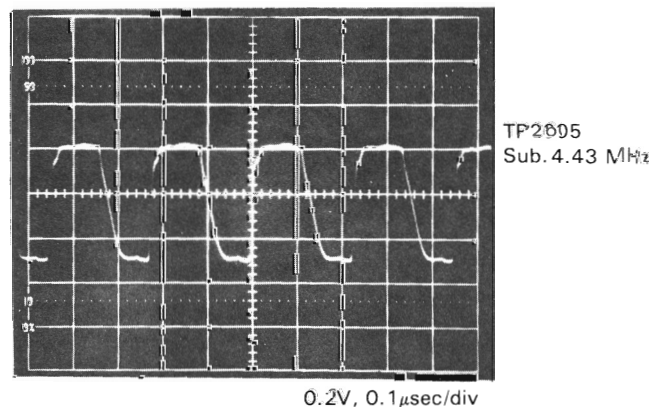

Figure 2-12
3. Connect a frequency counter to TP2606 (GND) and TP2605 (Sub 4.43 MHz) and adjust C2609 (Sub 4.43 MHz Adj.) to obtain a frequency counter reading of 4433.62 ± 0.02 kHz at TP2605. (Fig. 2-12)